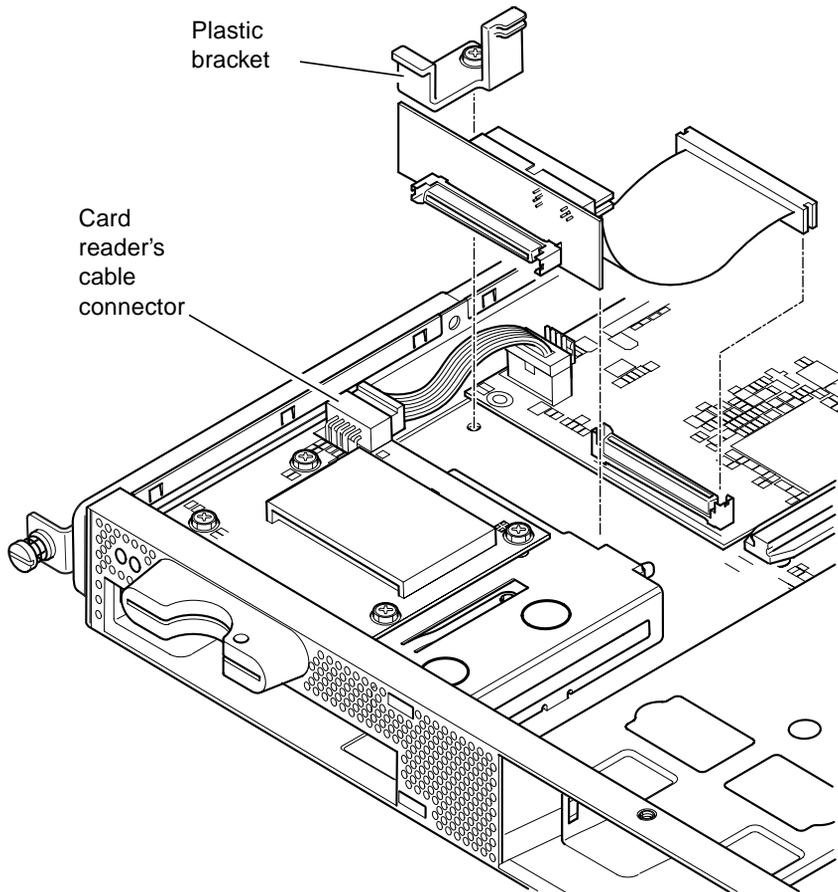

FIGURE 11-3 Replacing the CD-ROM Paddleboard
- 3. Disconnect the memory card reader board’s power cable from the system board (see FIGURE 11-3).**
- 6. Connect the new IDE ribbon cable to the system board with the cable extending away from the system board and towards the CD-ROM drive (see FIGURE 11-3).**
11. Now replace the plastic bracket that secures the paddleboard, and screw it into the chassis base (see FIGURE 11-3).